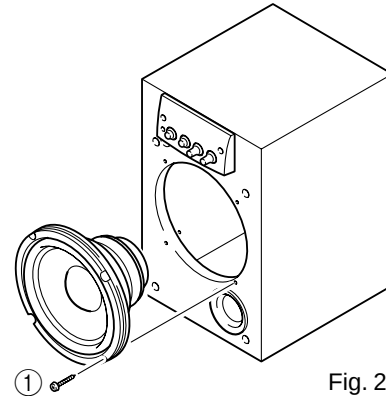

Fig. 2
- Remove 4 screws (①) in Fig. 2, and remove the Driver unit.